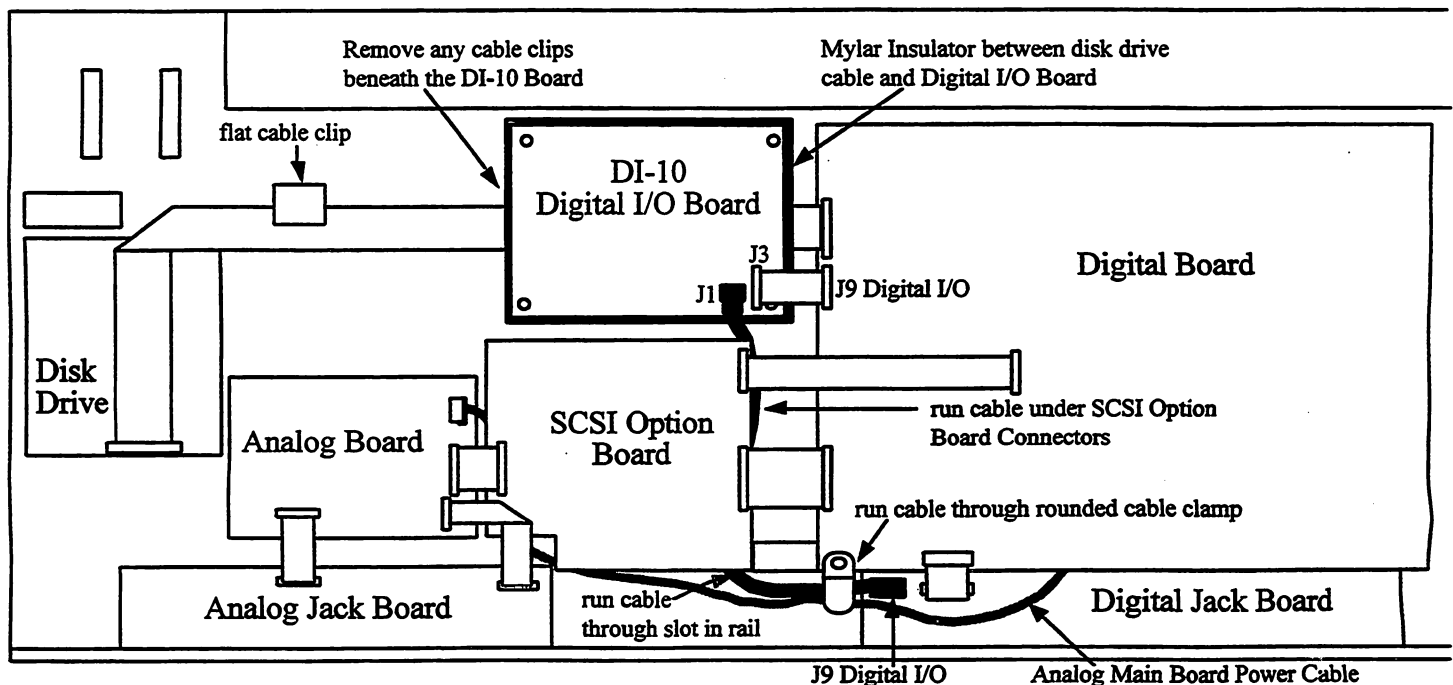

Figure 1 – Installing a DI-10 Board into an ASR-10 Keyboard Unit
4. With the jacks closest to you, find the four (4) holes in the keyboard bracket to the left of the digital board. The disk drive ribbon cable runs through this area and it is the area behind the SCSI board (see **Figure 1**).
5. Place the DI-10 board assembly over the holes in the position shown in **Figure 1**. Snap the DI-10 board standoffs into the keyboard bracket. Make sure that the plastic standoffs are fully seated in the holes.